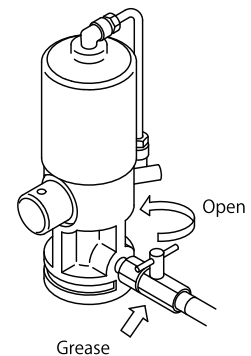

Fig. 3
- 6) The first applied grease includes the internal air of the pump. This is not a good condition. Obtain a perfect condition by the next operation. First open the check valve and operate the pump until grease is discharged from a small hole under the check valve. (Fig. 3)